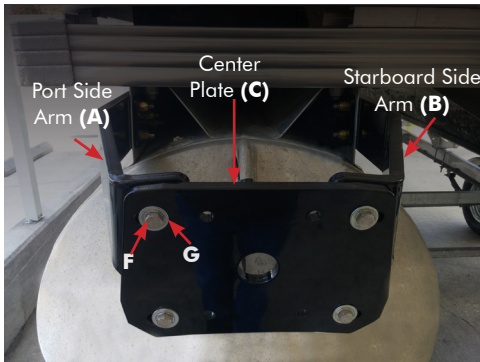

Figure 4
STEP 5 Bolt the adapter plate to pontoon. Be sure to install the backer plates on the inside of the pontoon mounting surface. Tighten the bolts that hold the Center Arm to the Port and Starboard Arms last. **FIG. 4, 5 & 6.**